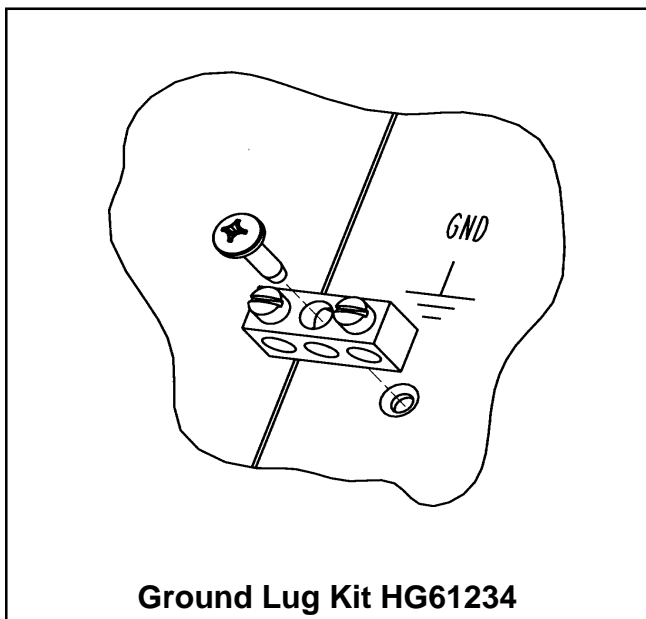
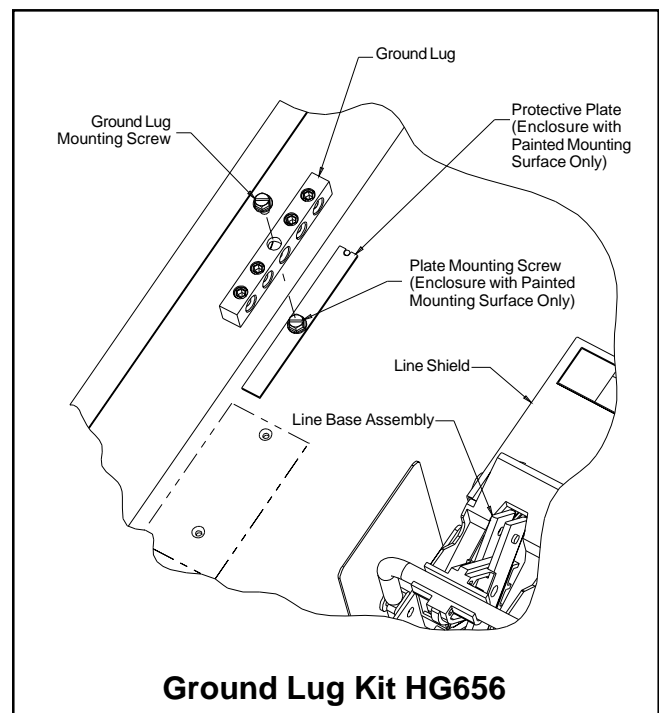

Fig. 1
Fig. 2
3. HG656 Kit Only: If mounting Ground Lug to a painted surface, remove and discard protective plate and protective plate mounting screw to expose metal, see Fig. 2.
4. Position Ground Assembly over existing hole as shown in Fig. 1 for HG61234 or Fig. 2 for HG656.